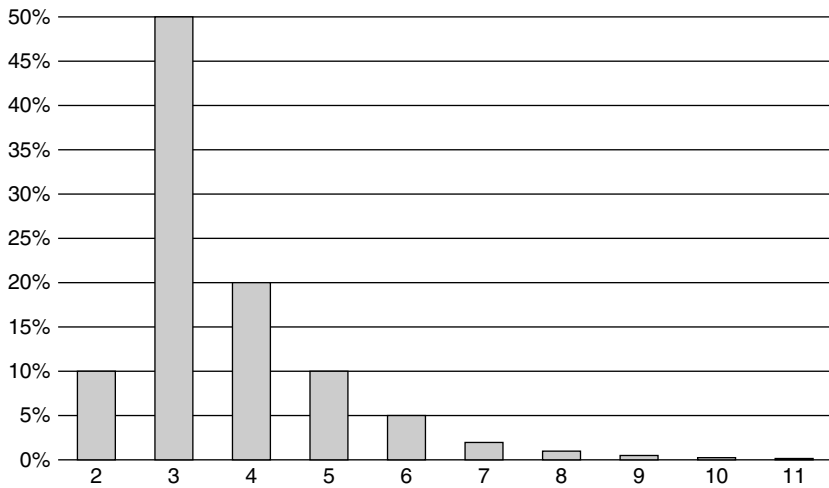

Figure 10-1 Probability distribution
Now we're starting to hone in on the truth. Peter's estimate is a *probability distribution*. In his mind, Peter sees the likelihood of completion like what is shown in Figure 10-1.
1% chance of occurrence.² In Peter's case, this would be 1 day, as shown in Figure 10-1.
- **N:** Nominal Estimate. This is the estimate with the greatest chance of success. If you were to draw a bar chart, it would be the highest bar, as shown in Figure 10-1. It is 3 days.